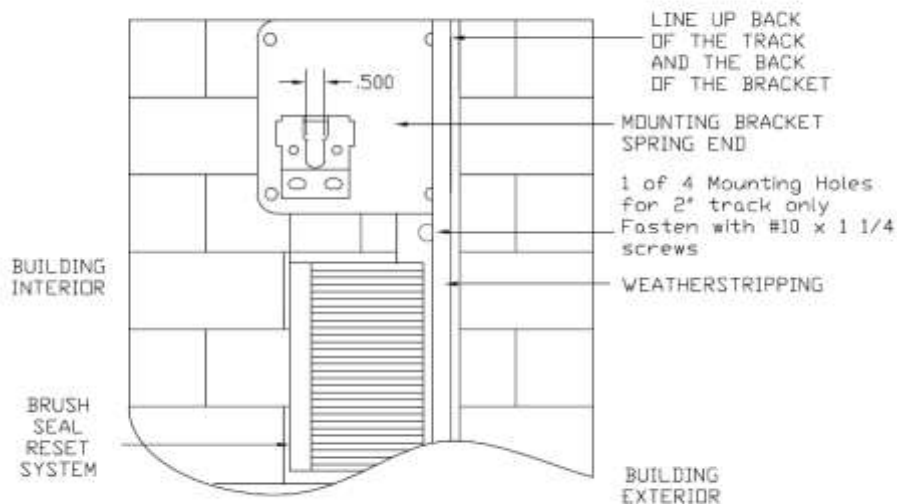
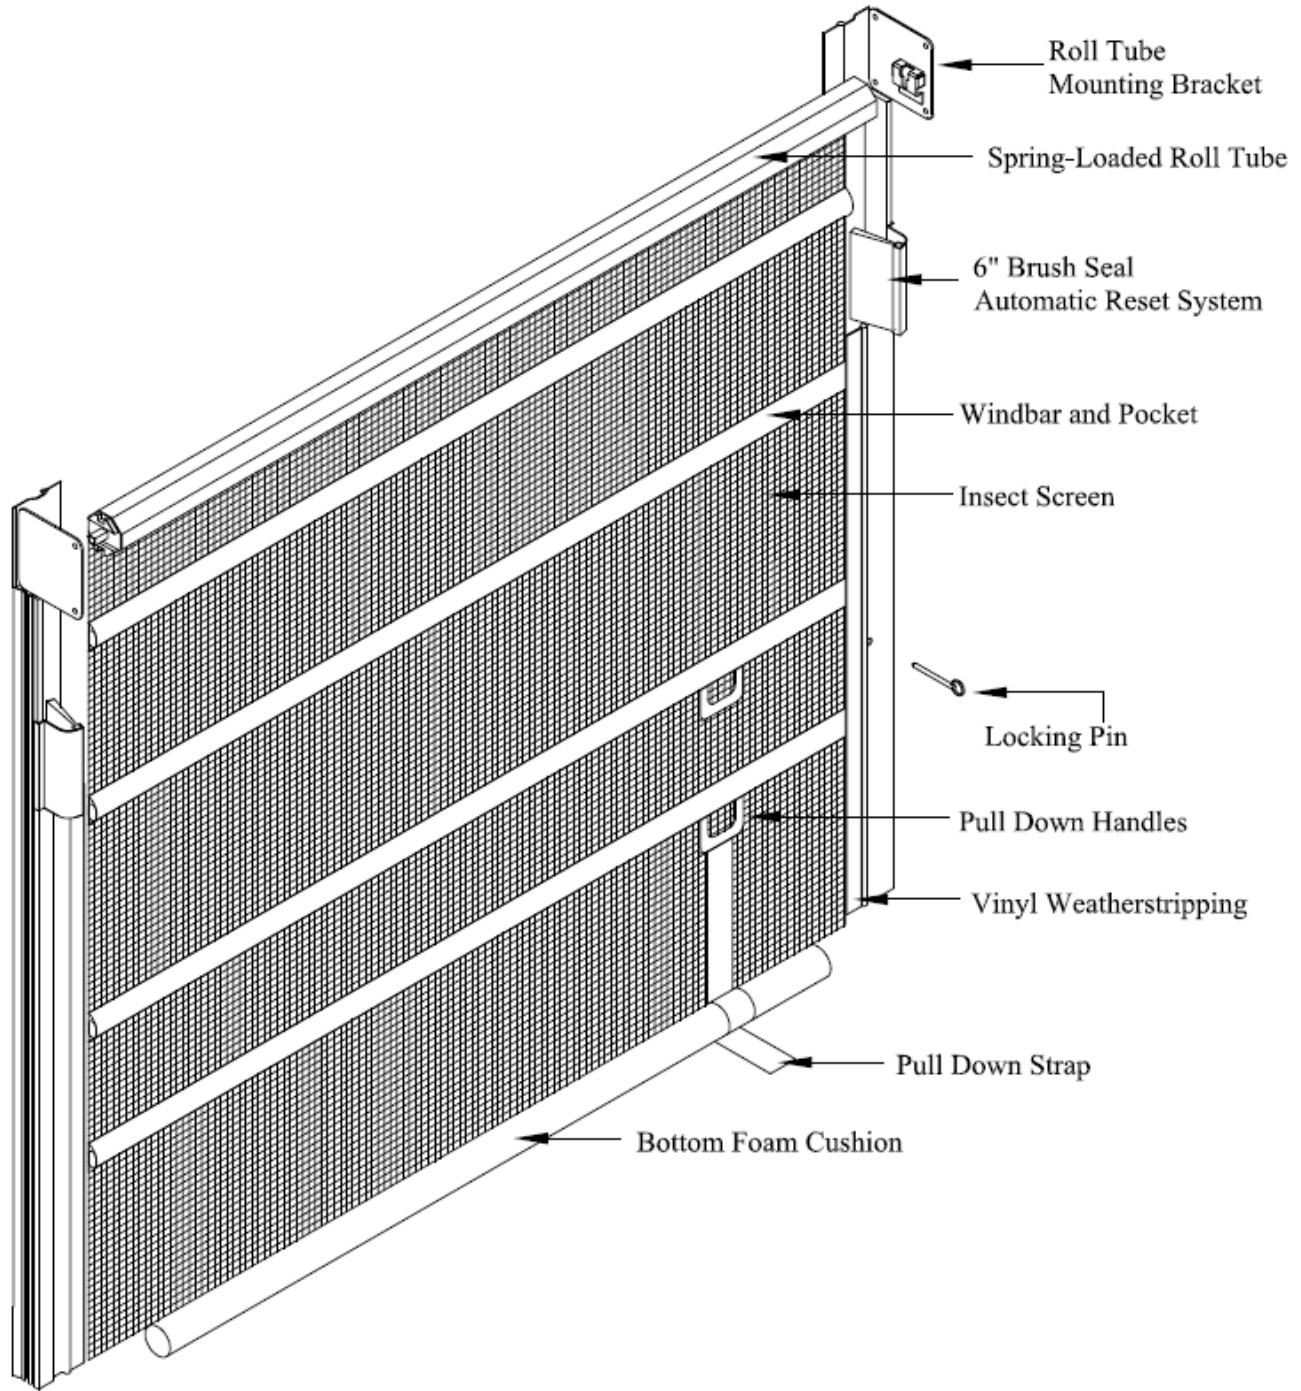

FIGURE 3
FIGURE 6
6. Install the 6" Brush Seal/Automatic Reset to the track. **NOTE: This can't be installed once the track are fastened to the wall.** See **Figure 3** and **Figure 6**.
7. Position the left side guide track on the door jamb so the back of the guide track is up against the back of the spring mounting bracket as shown in **Figure 3**. Make sure the track is plumb. Drill pilot holes into the doorjamb through all four holes in the guide tracks with a #22 bit (or 5/32"). Use the appropriate fasteners based on the jamb type to fasten the tracks to the jamb. (Not provided) **NOTE: ENSURE THAT THE FASTENER USED DOES NOT STICK UP FROM THE BACK OF THE TRACK MORE THAN 1/8" OF AN INCH OR THE DOOR MIGHT GET CAUGHT ON IT AS IT IS USED.**
18. To raise the curtain, hold one of the handles with your left hand and remove the lock down pin with your right hand. Allow the curtain to go up slowly until the foam pad at the bottom of the screen is up against the lintel. See **Figure 6** for exploded view of bug barrier configuration and parts breakdown.